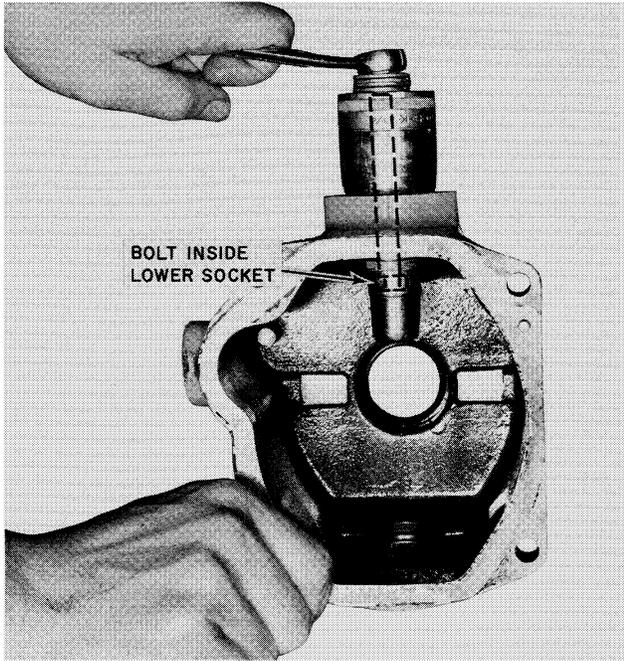

FIGURE 35
25. If it is necessary to remove the pintle bearings, two methods are shown in Figures 35 and 36. The bearing puller, Figure 36, is the most desirable method but the "in the field" method shown in Figure 35 will work satisfactorily.